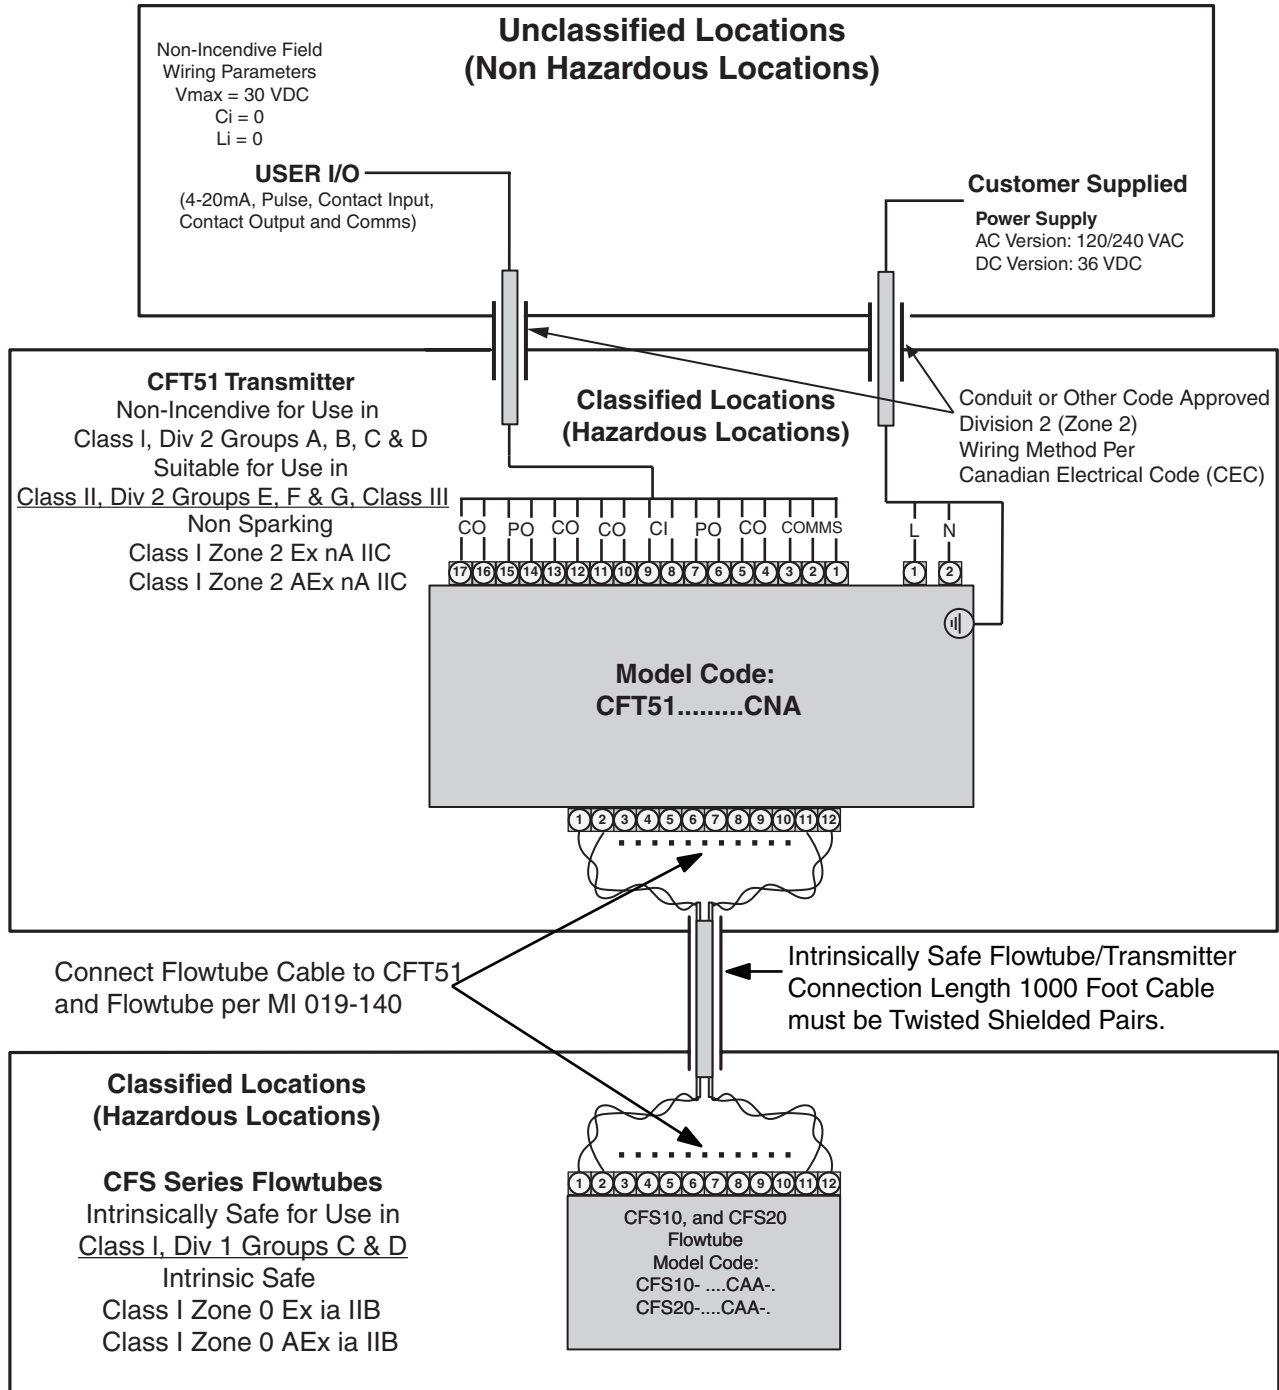

Figure 6. Flowtube in Class I, Division 1 (Intrinsic Safety) and Transmitter in Class I, Division 2 (Non-Incendive) Area
1. Figure 6 must not be revised without prior CSA approval.